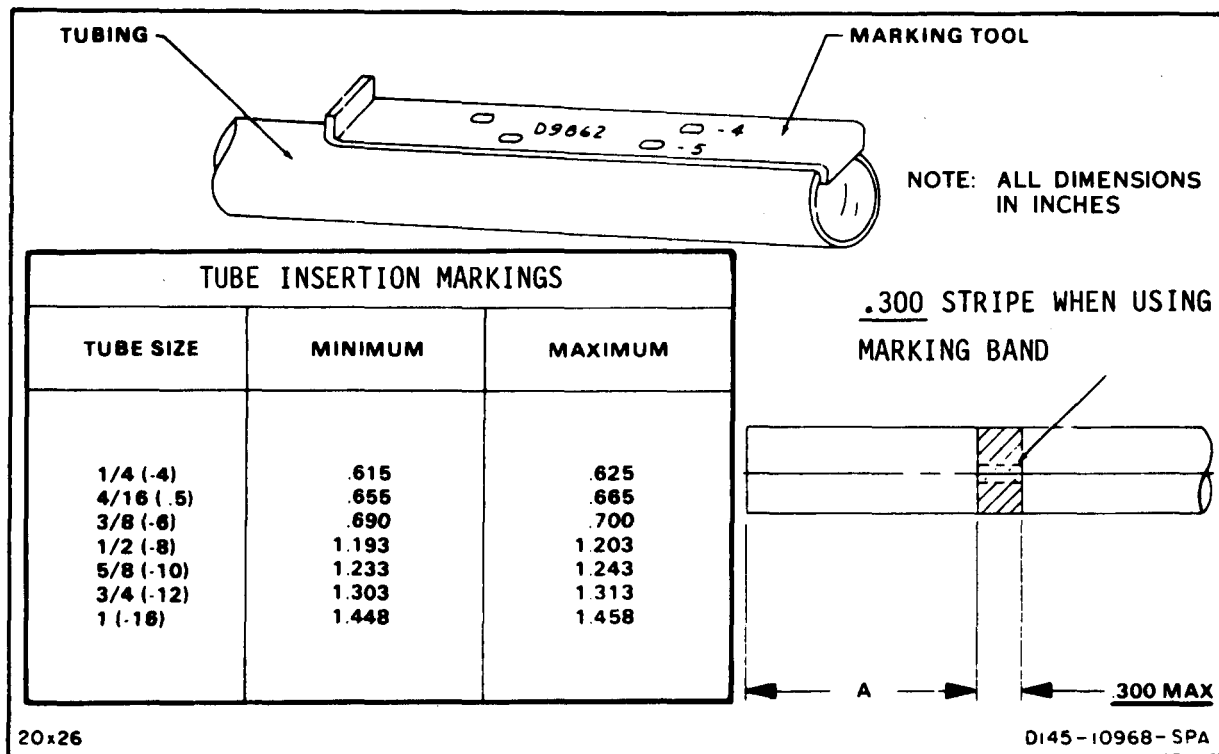

Figure 2-7. Marking tool and tube insertion markings/band.
18. Mark tube ends. Use the correct marking tool for the size of the tube to be swaged. When marking with tool 09862, place the lip stop against the end of the tube. (See Figure 2-7.) Using the slot as a guide, mark the tube in two places (180° apart) with the marking pen. If marking tool 09862 and marking pen D10058 are not available, see the chart in Figure 2-7 for the tube insertion band.